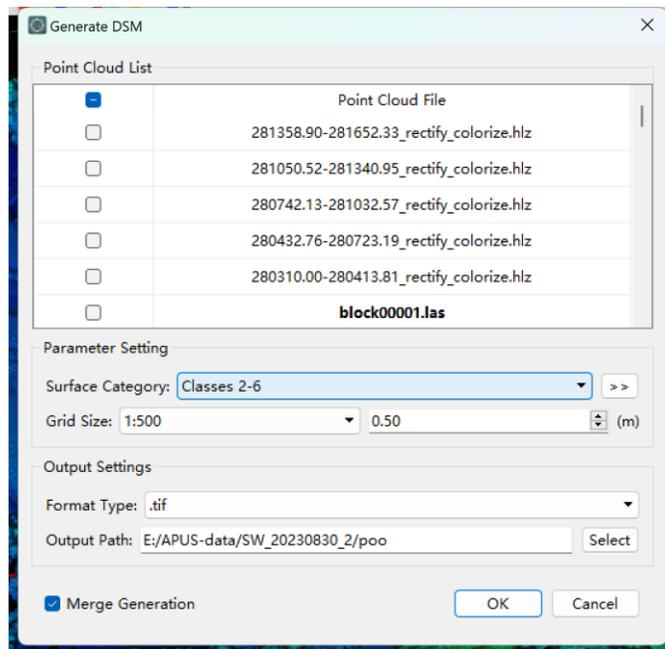

Figure 3-139 Generate DSM
1. Click the menu <Terrain>→<Generate DSM>, the dialog box will pop up (Figure 3-139).